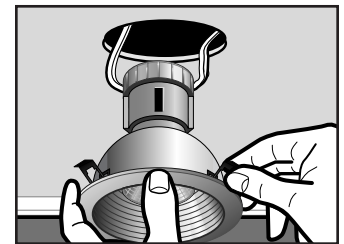

Figure 5
3. Compress springs and insert fixtures into ceiling openings (Fig. 5).